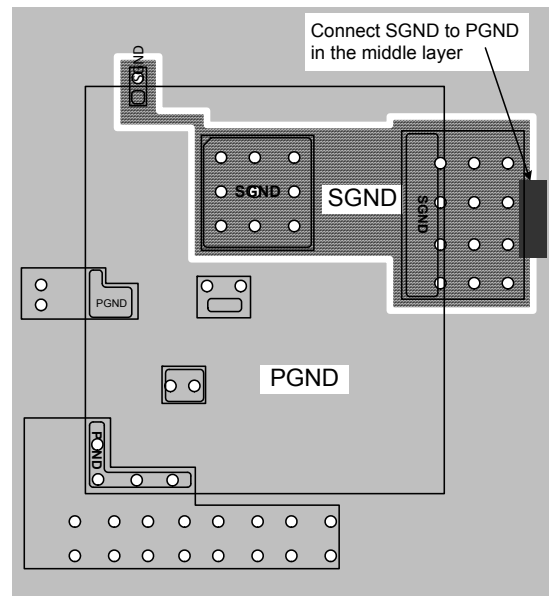

FIGURE 30. RECOMMENDED LAYOUT - CONNECT SGND TO PGND IN THE MIDDLE PCB LAYER AFTER ESTABLISHING SEPARATE SGND AND PGND
- Establish separate SGND and PGND planes, then connect the SGND to PGND planes as shown in Figure 30 in the middle layer. For making connections between SGND/PGND on the top layer and other layers, use multiple vias for each pin to connect to the inner SGND/PGND layer. Do not connect SGND directly to PGND on a top layer. Connecting SGND directly to PGND without establishing the SGND plane will bypass the decoupling capacitor at internal reference supplies, making the controller susceptible to noise.